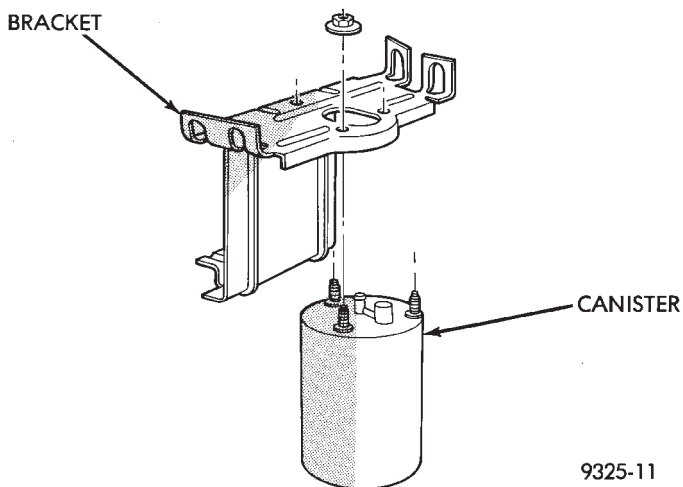

Fig. 7 EVAP Canister and Bracket
- (1) Slide EGR purge solenoid off of bracket on air cleaner.
- (2) Remove screw from air cleaner.
- (3) Remove air inlet duct from air cleaner.
- (4) Remove air cleaner by pulling straight up
- (5) Remove hoses from the top of the EVAP canister.
- (6) Remove 3 nuts from EVAP canister.
- (7) Canister is removed from under the vehicle (Fig. 7).